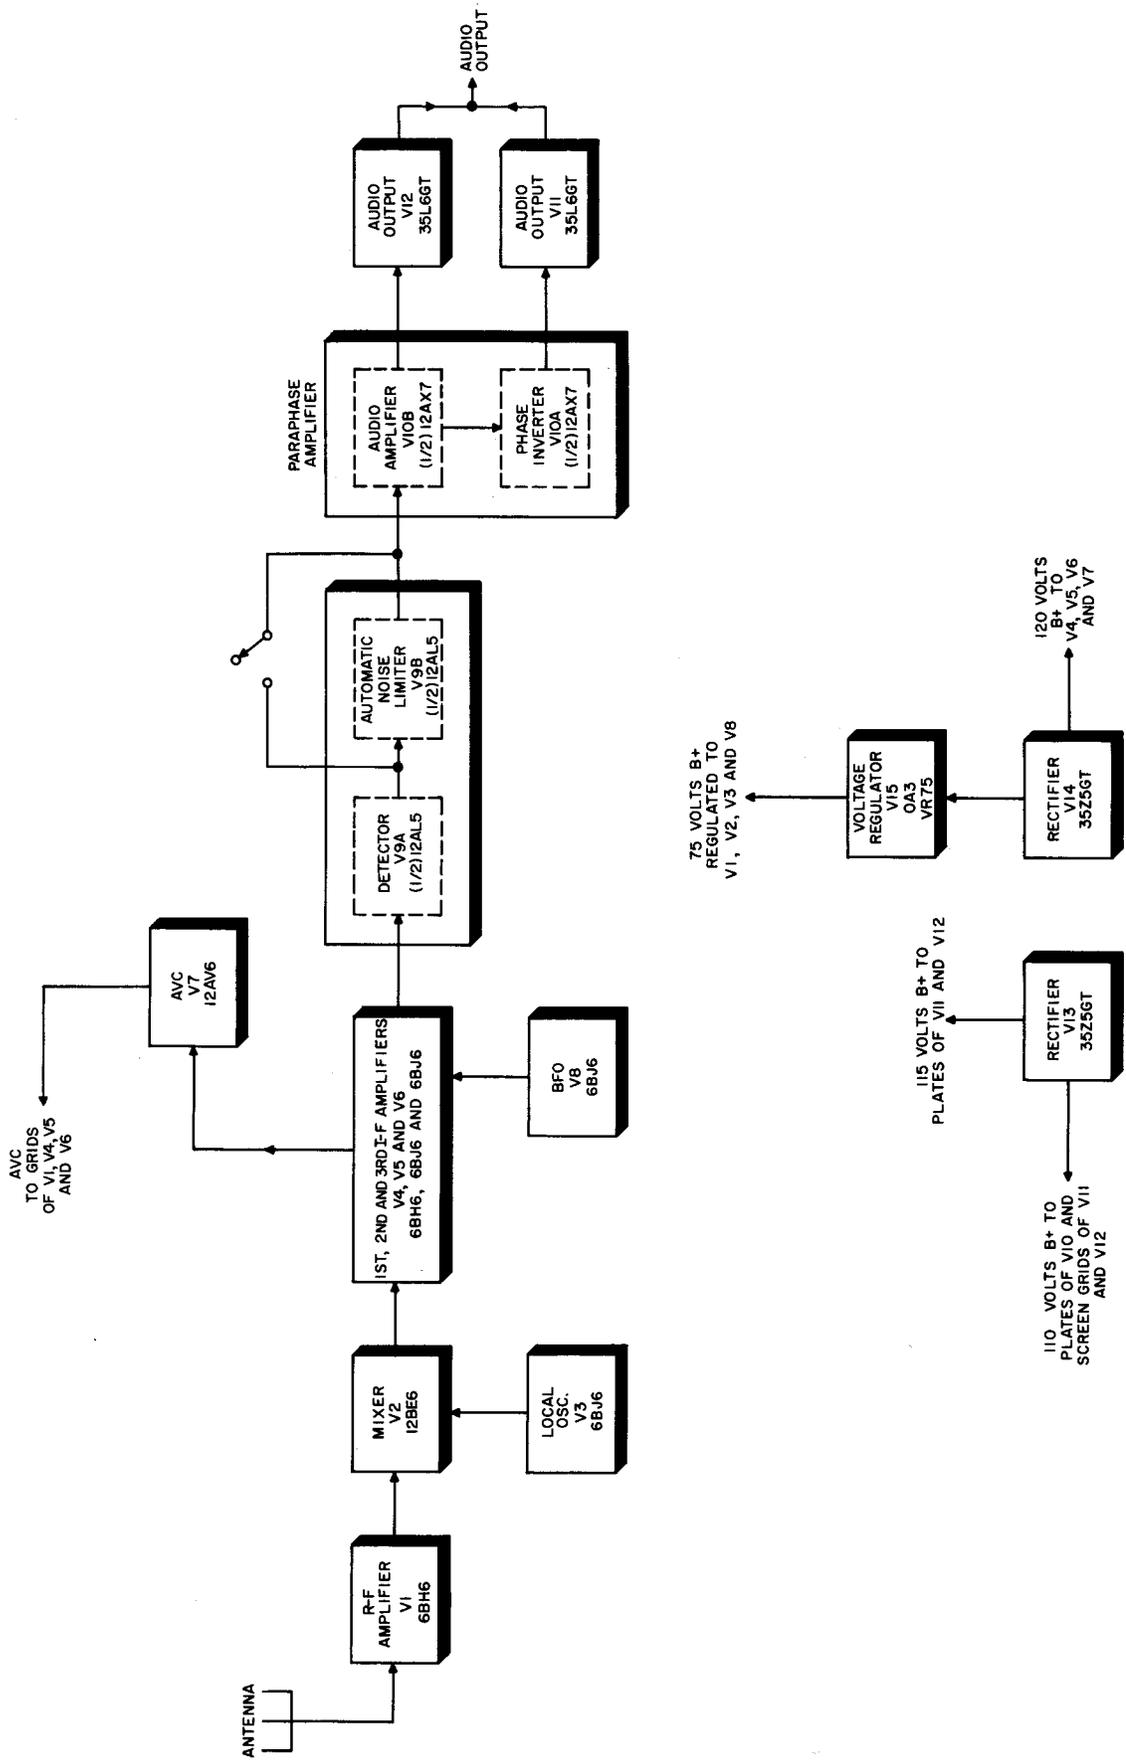

Figure 2-1. Radio Receiver R-649/UR, Block Diagram
a. Radio Receiver R-649/UR is a superheterodyne receiver having a frequency range of 0.20 mc to 0.40 mc, and 0.49 mc to 18 mc. The signal path through the receiver is shown in the block diagram (figure 2-1). The signal from the antenna is transformer coupled to r-f amplifier V1. The amplified output of V1 is transformer coupled to the mixer (V2) where it is heterodyned with the signal from local oscillator V3 to generate an intermediate frequency (i-f) of 455 kc. This i-f output is transformer coupled to the 1st, 2nd and 3rd i-f amplifiers (V4, V5 and V6). The i-f output of V6 is coupled to the detector (V9A) where it is demodulated and fed into either audio amplifier V10B or the ANL (automatic noise limiter) V9B.